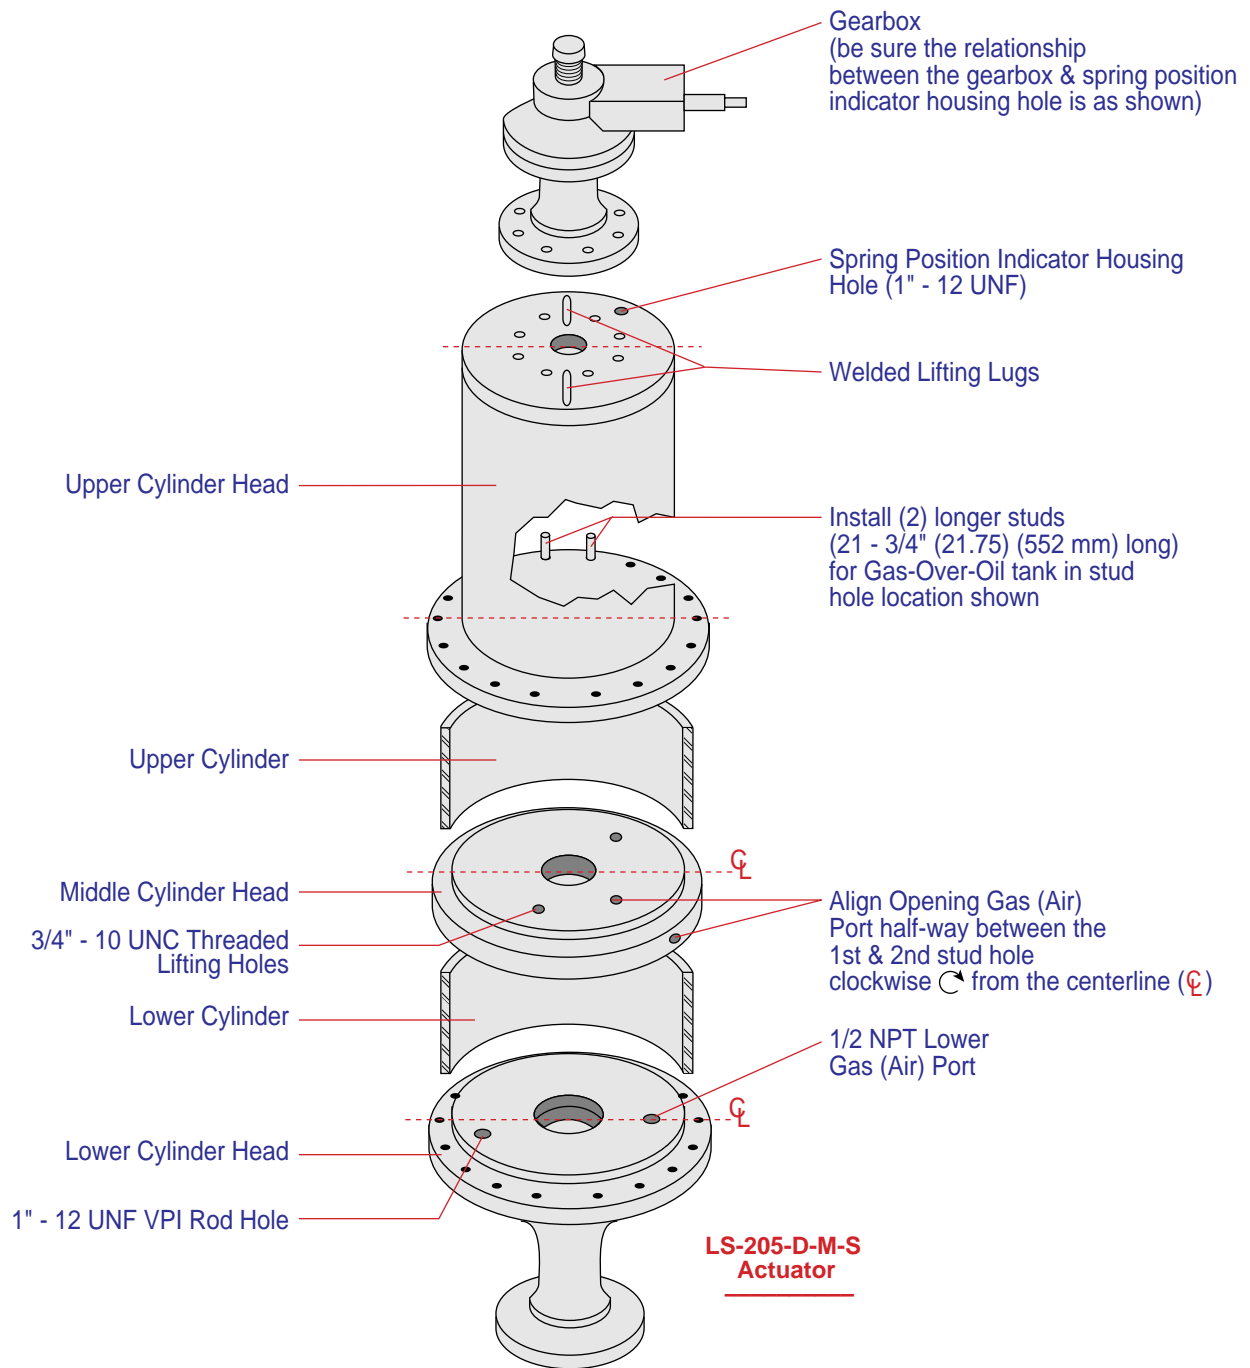

FIGURE 53
- Ⓕ Refer to Figure 53 for proper head stacking orientation
18. Install the upper cylinder head (spring case) (Item 29) and align the marks “↑” with the middle and lower cylinder heads. (Note: If they were not marked at disassembly, align as shown in Figure 53.) (Note: If the cylinder head does not seat fully due to the spring, install four all-thread studs and nuts that are approximately three inches (76 mm) longer than the regular studs (Item 27). Evenly tighten these down to compress the spring until the rest of the regular studs can be installed. Then remove the longer studs and install the regular studs. Refer to Figure 51.)
19. Install the studs and nuts (Items 27 & 28) using a criss-cross pattern to tighten. (Note: There are two longer studs and these should be installed as shown in Figure 53 for the gas-over-oil tank.)
21. Install the O-ring (Item 24) onto the drive nut (item 22). Install the wiper ring (Item 63 - detail “B”) into the adapter spool (Item 15). Install into the adapter spool the bearings, drive nut, and bearing retainer (Items 23, 22, & 21). (Note: Be sure to hand pack the bearings and to properly install the wiper ring as shown in detail “B”).
23. Install the gearbox and adapter spool assembly onto the actuator by rotating it counterclockwise ↺ on the load stem (Item 16). Align the marks “↑”. (Note: If no marks were made at disassembly, align as in Figure 53.)